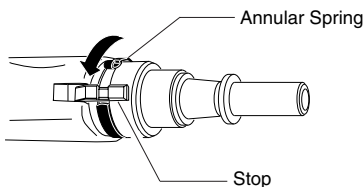

Figure 26 - Rotating Annular Spring to Secure Stop
7. Rotate annular spring until stop is covered (see Figure 26).